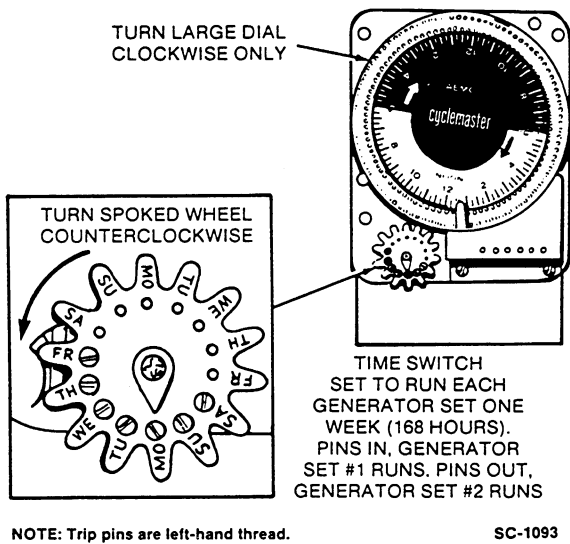

FIGURE 7. CHANGE-OVER CLOCK
The change-over clock is factory set to run each generator set for one week periods. See Figure 7. If other time intervals are wanted, change setting using the following steps:
2. Set change-over for generator set #1 operation. Turn small spoked wheel counterclockwise so pins in the wheel are on bottom (Figure 7).
3. Turn the small spoked wheel on change-over clock counterclockwise so pins in the wheel are on top (Figure 7). Generator set #2 should start and assume load after any time delays. Generator set #1 should shut down after time delay on stop.